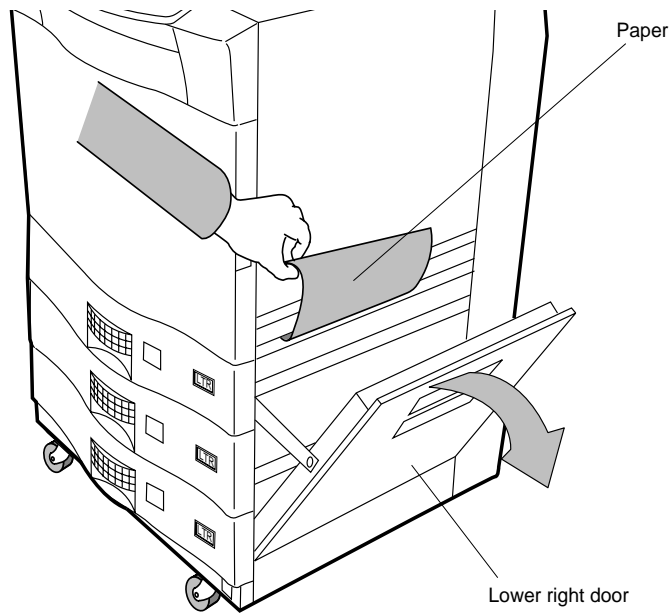
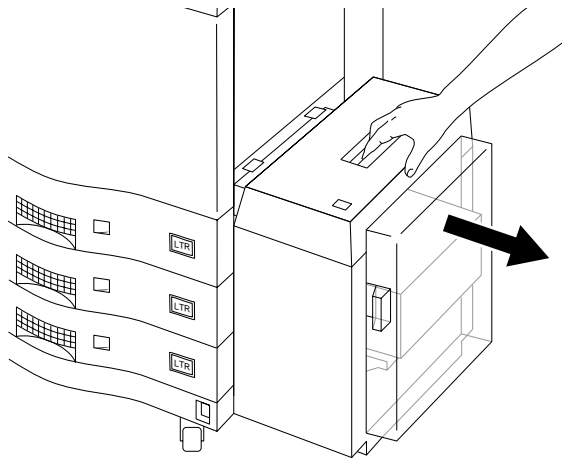

Figure 3-37 Removing paper from side door opening
Figure 3-38 Unlatching the HCI
1. Lower the right-side lower cover (Figure 3-37). If you have an HCI installed, unlatch the HCI and slide it away from the printer (Figure 3-38).